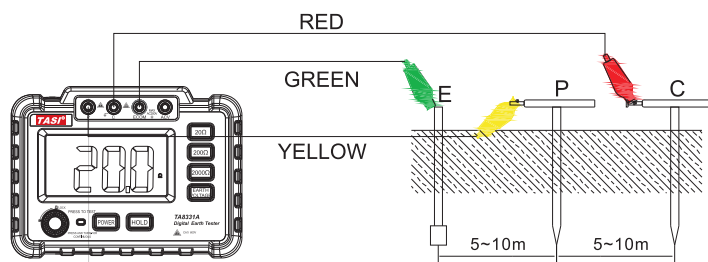

Figure3
As shown in Figure 3 below, connect the auxiliary grounding rods P and C to the ground at a distance of 5 to 10 meters from the grounding object to be measured, connect the green wire to the instrument terminal E, connect the yellow wire to the terminal P and connect the red wire to the terminal C.
3) Ground resistance measurement (Figure 3)